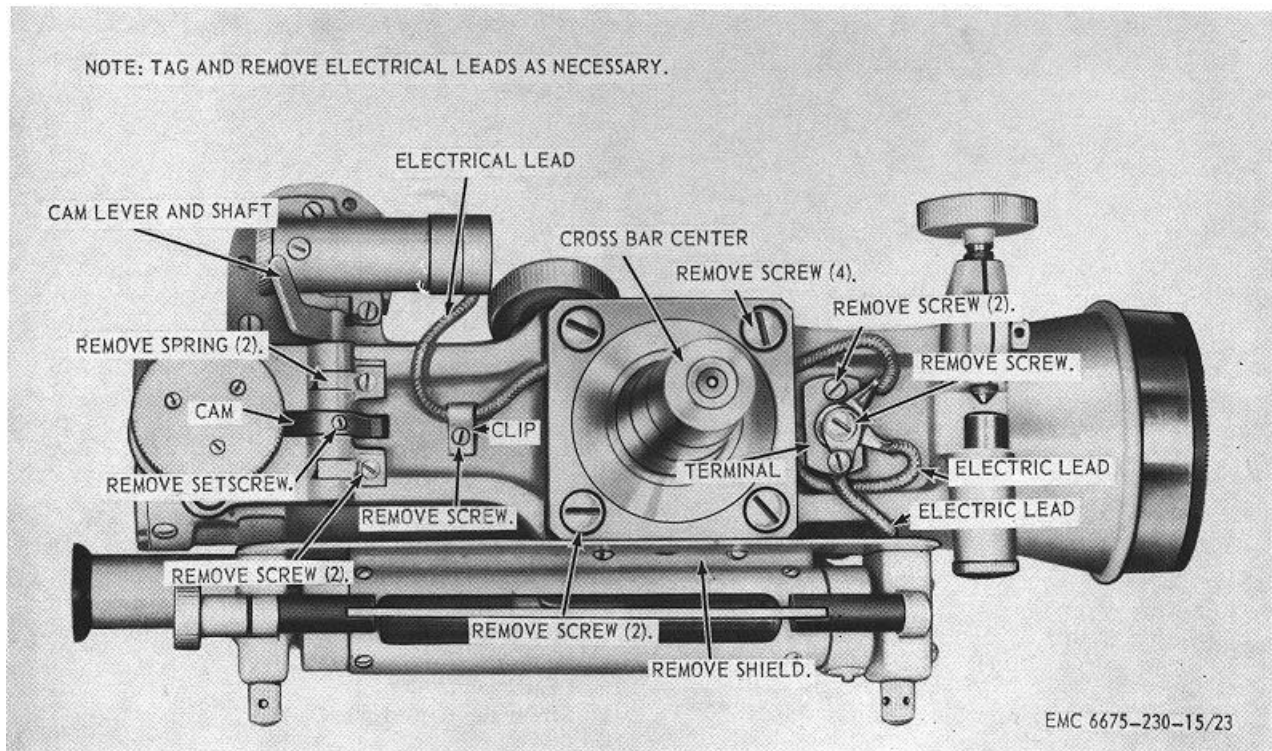

**Figure 22. Leveling head and center clamp, removal and installation.**
- (1) Remove the leveling screws, tangent screw and plunger, leveling spring, and dust cap (pars. 62-63).
- (2) Remove the telescope barrel (par. 88).
- (3) Refer to figure 22 and remove the leveling head and clamp.
- (1) Refer to figure 22 and install the leveling head and clamp.
- (2) Install the telescope barrel (par. 88).
- (3) Install leveling spring, tangent screw and plunger, dust cap, and leveling screws (par. 62-63).